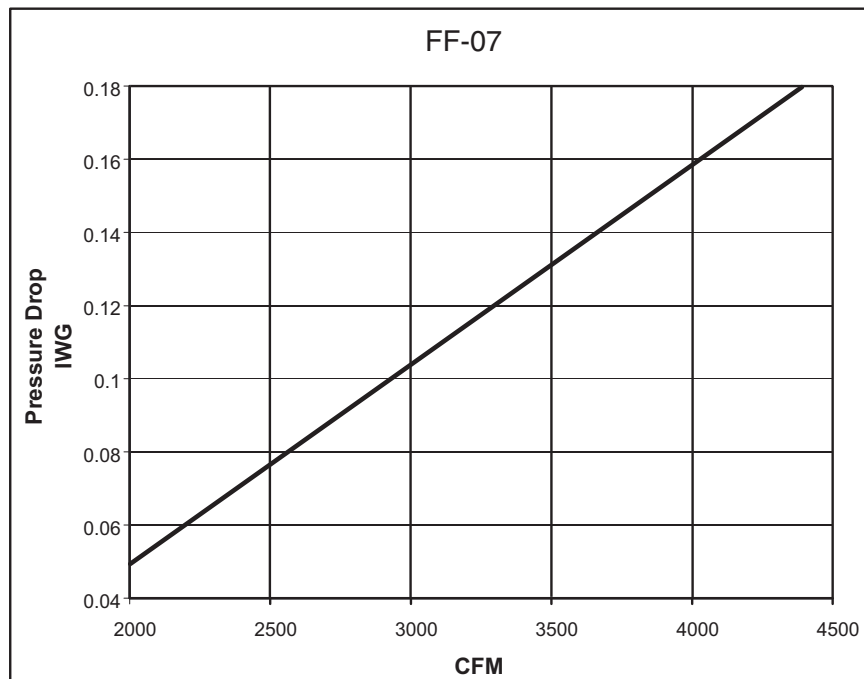

FIGURE 12 - PRESSURE DROP ACROSS A DRY INDOOR COIL VS. SUPPLY AIR CFM
- Knowing the pressure drop across a dry coil, the actual CFM through a unit can be determined from the curve in Figure 12.